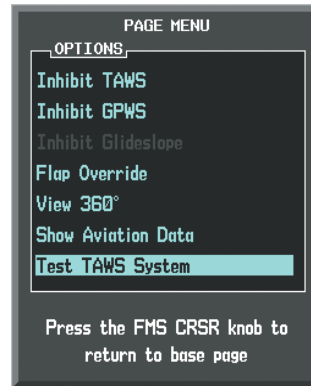

Figure 6-106 TAWS-A Page Menu
- 3) Select 'Test TAWS System' and press the **ENT** Key to confirm the selection. (Figure 6-106)